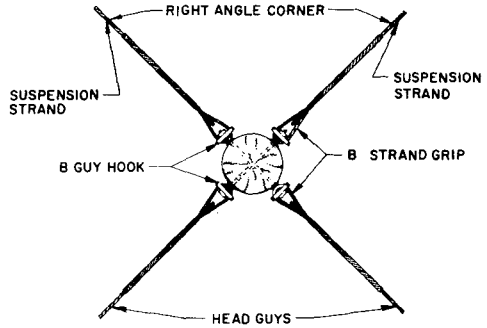

Fig. 3—Right-Angle Corner Made on One Pole
2.04 At right-angle corners (70-foot pull) made on one pole, two head guys shall be placed as shown in Fig. 3. Each guy shall be in line with the suspension strand that it supports.